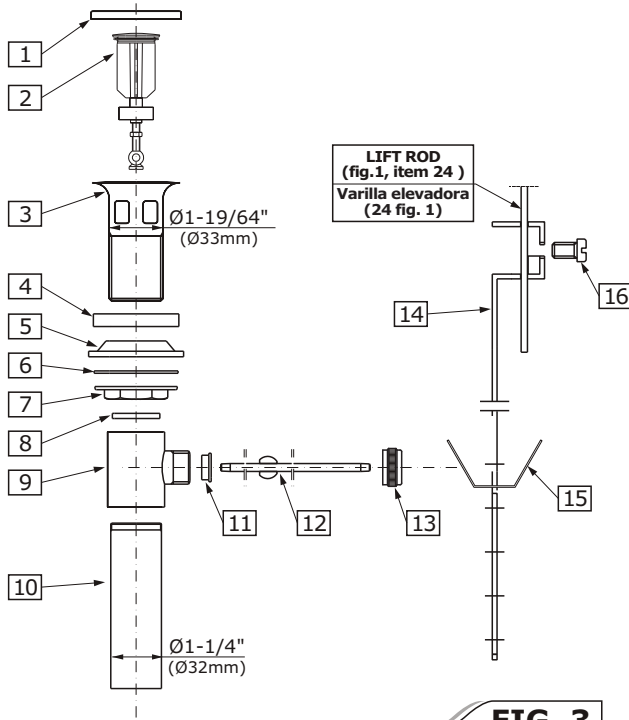

FIG. 3
- ➔ Dismantle the drain assembly to the parts shown on **fig. 3**.
- ➔ Insert collar gasket (4) and drain collar (3) into drain hole of a lavatory. From underneath the lavatory slip under-bowl gasket (5) into drain collar (3), washer (6) and flanged nut (7).
- ➔ Position under-bowl gasket (5) correctly under the lavatory and screw flanged nut (7) firmly but do not overtighten.
- ➔ Make sure washer (8) is inside drain body (9) and screw drain body (9) onto drain collar (3) hand tighten only.